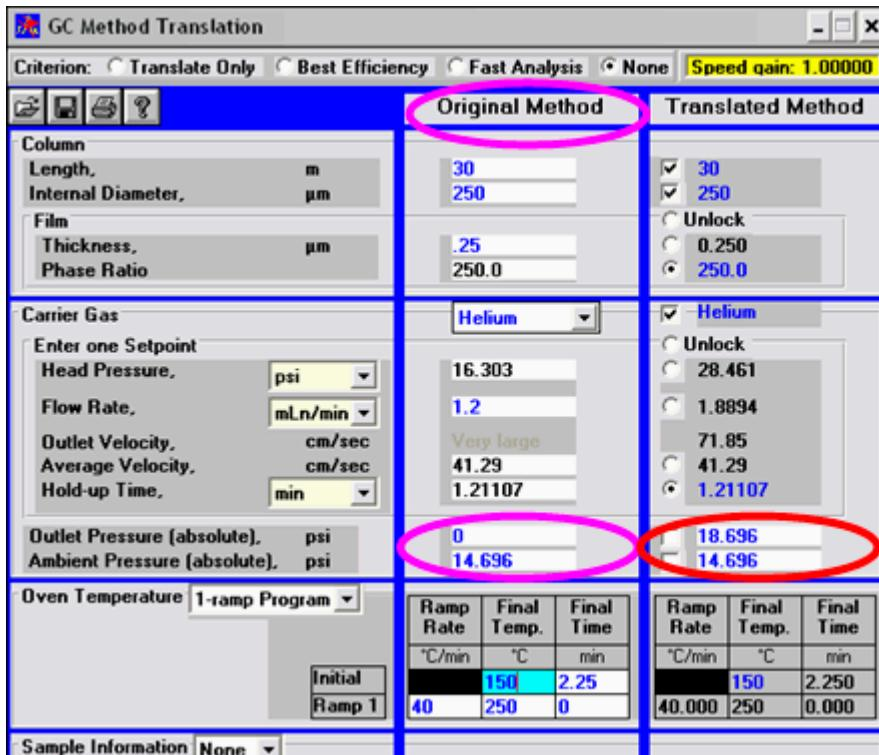

Figure 8 Using the Method Translator
- 3 Enter the original conditions in the Original Method column. See Figure 8.
- 6 Set the oven temperature to the approximate elution temperature of the sample component of interest. For OFN, enter 150 °C. See Figure 8.
7 Set the hold-up time (void time) to be the same. Select the radio button in the Translated Method column that corresponds to the Hold-up Time. See Figure 8.
Assuming OFN elutes at 150 °C, Figure 8 shows that the head pressure that delivers the equivalent hold-up time at 4 psig QuickSwap pressure is 28.6 psig.